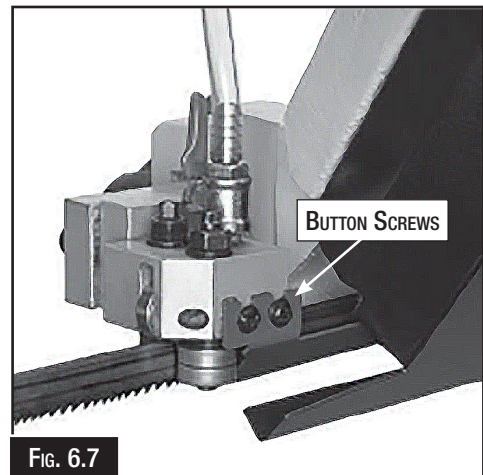

FIG. 6.7
3. Raise and lock the bow saw for easy access. Slide the blade guides as close as possible together and lock in place. Remove the blade guards by loosening the button head screws. (Fig. 6.7)